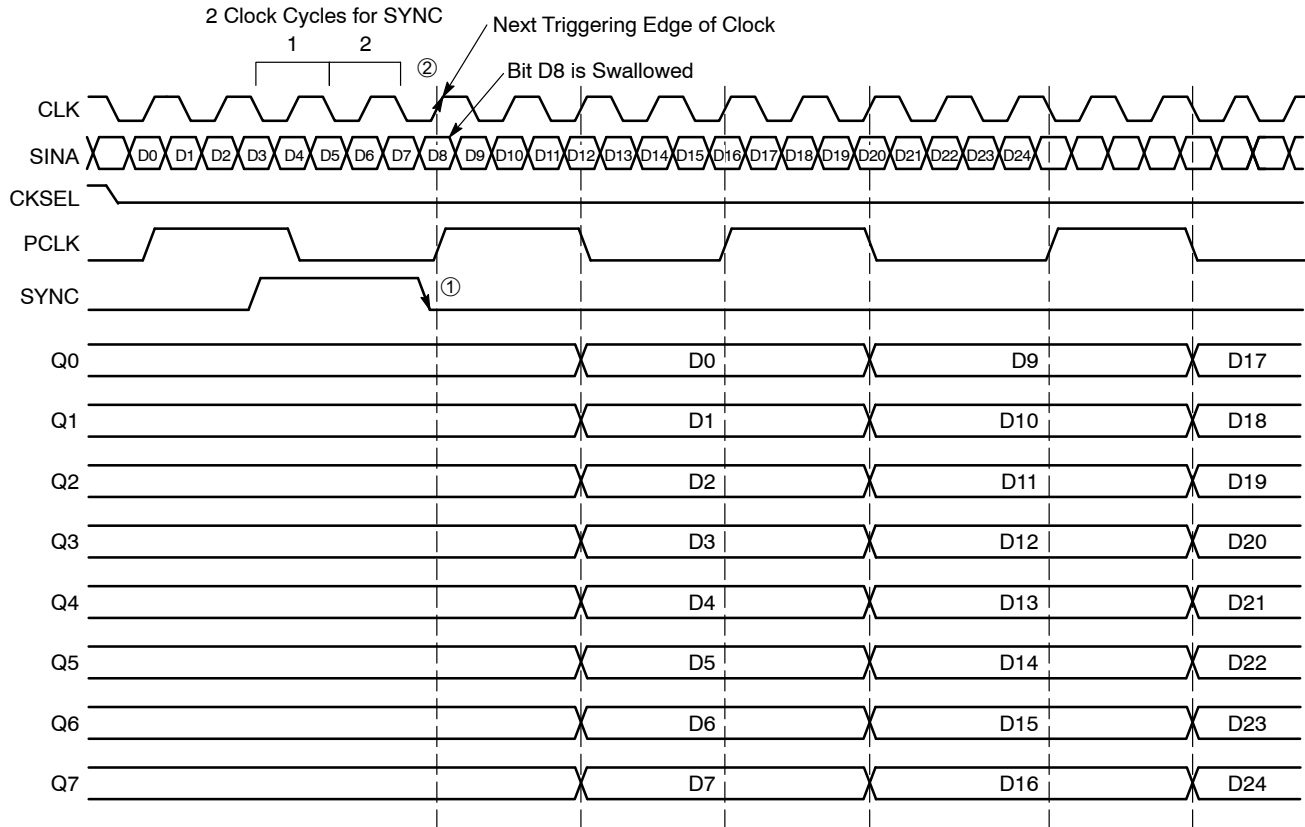

Figure 10. Timing Diagram A. 1:8 Serial to Parallel Conversion with SYNC Pulse at CKSEL LOW
To allow the user to synchronize the output byte data correctly, the start bit for conversion can be moved using the SYNC input pin (pin 2). Asynchronously asserting the SYNC pin will force the internal clock to swallow a clock pulse, effectively shifting a bit from the  $Q_n$  to the  $Q_{n-1}$  output as shown in Figure 10 and Figure 11. For CKSEL LOW, a single pulse asynchronously for two consecutive
clock cycles shifts the start bit for conversion from  $Q_n$  to  $Q_{n-1}$ . The bit is swallowed following the two clock cycle pulse width of SYNC① on the next triggering edge of clock② (either on the rising or the falling edge of the clock). Each additional shift requires an additional pulse to be applied to the SYNC pin. (See Figure 10)